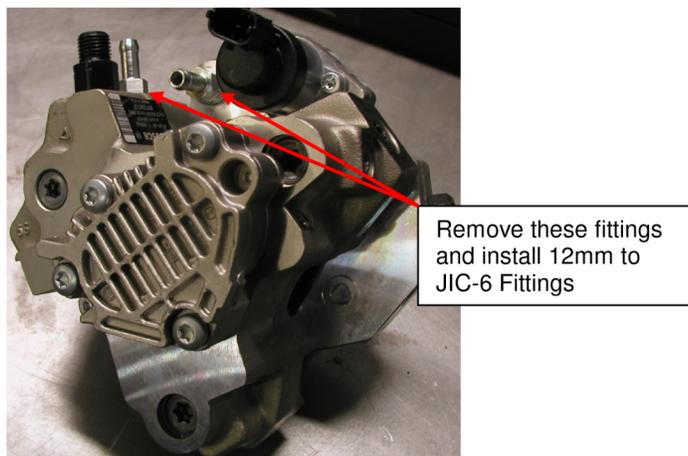

Figure 2 - CP3 Pump Port Locations
3. Please refer to **Figure 2** for fuel port locations. Install a 12mm sealing washer on each of the 12mm to JIC-6 fittings.